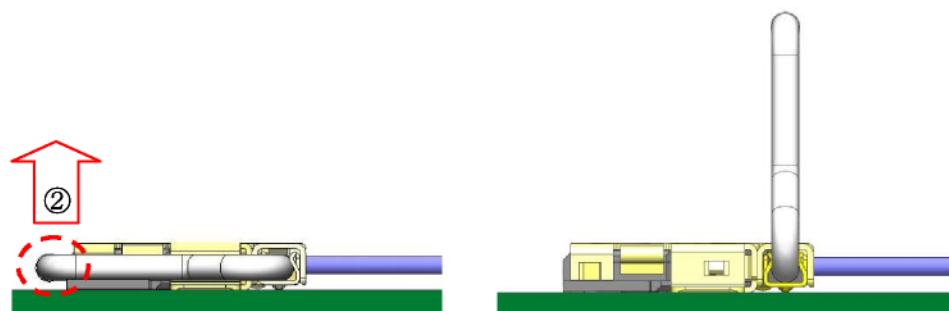
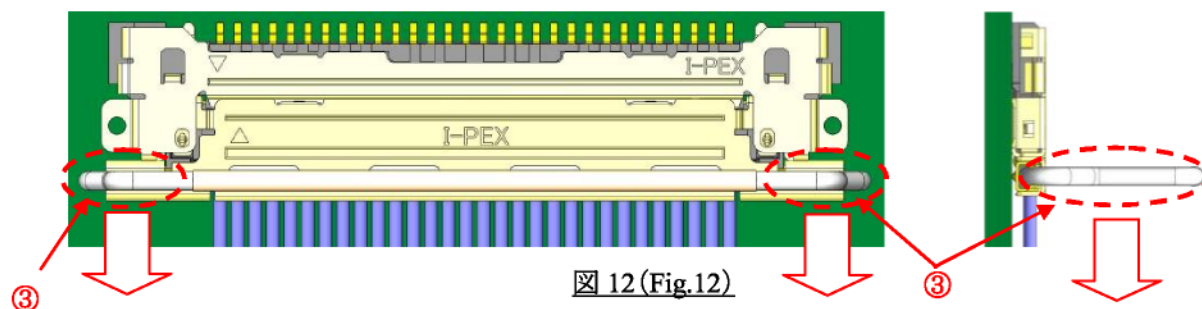

図 11 (Fig.11)
図 12 (Fig.12)
As Fig 10, ①, pull the one of ① points of PULL BAR up towards ② direction to release the lock from the PCB side connector and turn PULL BAR up to horizontal as Fig 11. As Fig 12, please make un-mating by pulling the horizontal part ③ in parallel to PCB.
如图 10 所示，将①部位中的其中一侧沿着②的方向把 PULL BAR 抬起，接触与基板上的连接器的锁扣。然后，将 PULL BAR 旋转到如图 11 所示的垂直位置，之后沿着箭头方向水平的将 Plug 拔出。